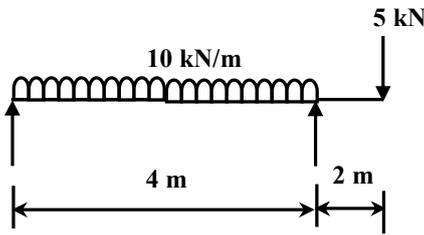

Figure: 1 Q-2(b)
- (b) Calculate S.F. & B.M. and draw S.F. and B.M. diagrams for a beam shown in Fig:1 7